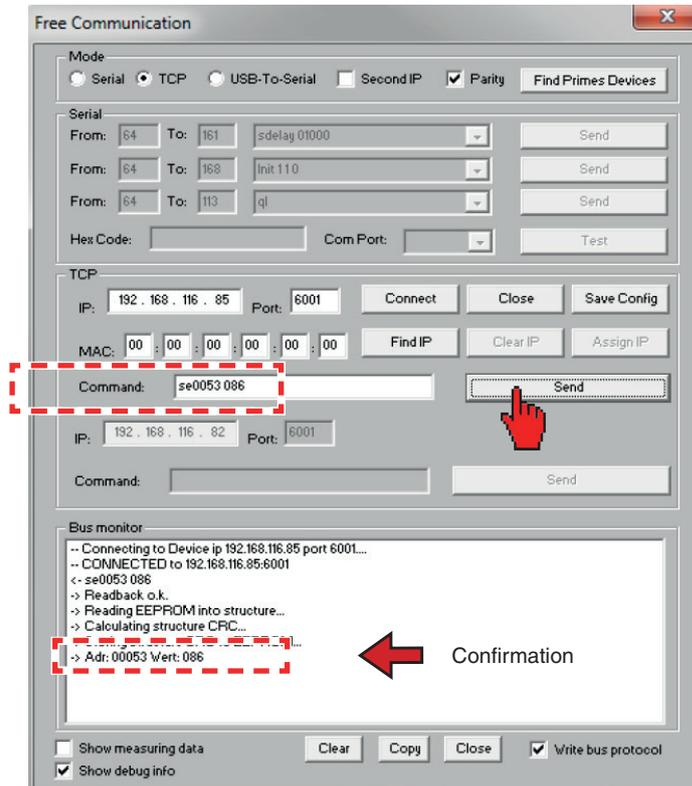

Fig. 11.2: Changing the IP address in the menu *Free Communication*
8. Click to **Send** and wait for the confirmation in the bus monitor (in Fig. 11.2 „-> Adr:00053 Wert: 086“)